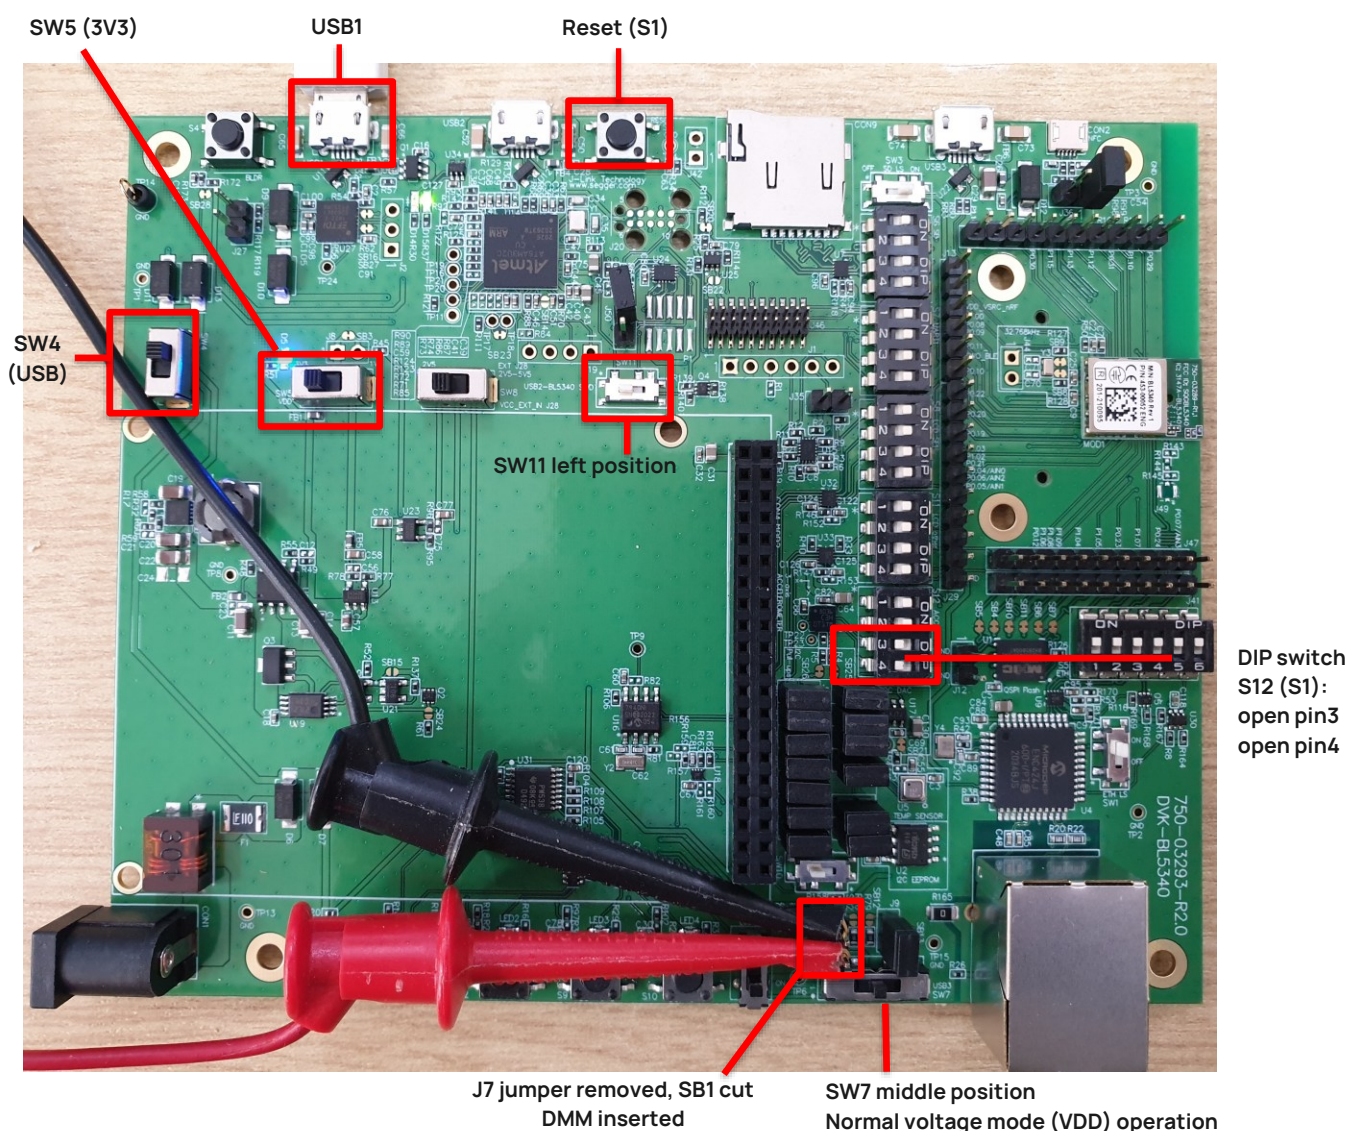

Figure 1: BL5340 development board DIP switch and switch settings
1. Configure the board to the following settings (shown in Figure 1)
2. To measure the current consumption of the module, connect the current measuring DMM to J7 on the development kit (Figure 1).